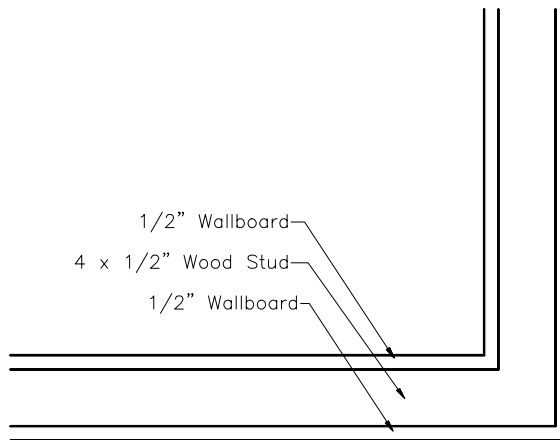

Figure 19-15 Multiline style created for Example 1
12. Choose the **OK** button from the **Multiline Style** dialog box to return to the drawing area. To test the new multiline style, use the **MLINE** command and draw a series of lines (Figure 19-15).